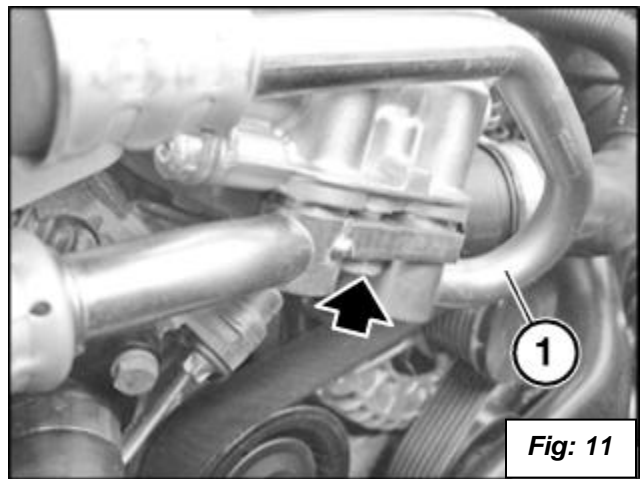

Fig: 11
16. Remove the oil lines (1) from the oil filter control housing by removing the bolt marked with an arrow. Have rags ready (keep the oil off of the belts!). See **figure 11**. **Tip:** Use a flex head ratchet and you don't have to remove the fan cowl.